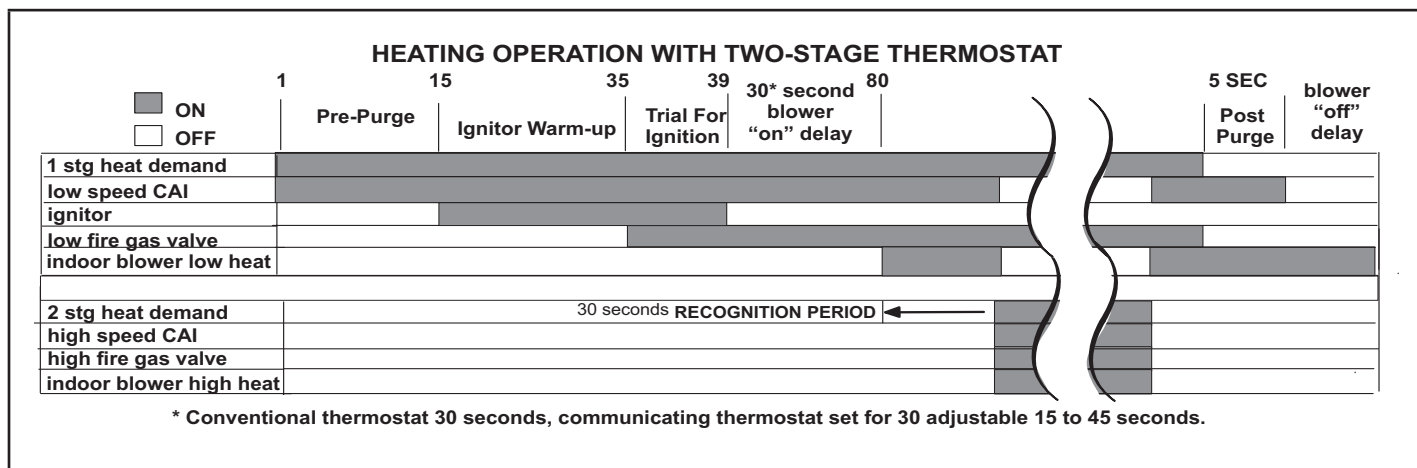

FIGURE 66
**Applications Using a Two-Stage Thermostat See FIGURE 66 for ignition control sequence**